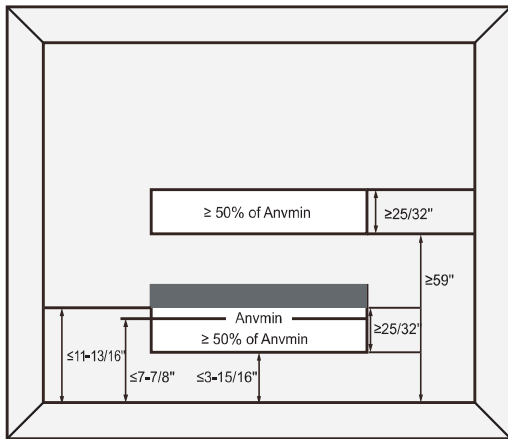

Figure 2.6 Opening conditions for connected rooms
- For determination of room area (A) when used to calculate the refrigerant charge limit, the following shall apply.
- The room area (A) shall be defined as the room area enclosed by the projection to the base of the walls, partitions and doors of the space in which the appliance is installed. Spaces connected by only drop ceilings, ductwork, or similar connections shall not be considered a single space.
- The area of the connected rooms, on the same floor, connected by permanent opening in the walls and/or doors between occupied spaces, including gaps between the wall and the floor, can be considered a single room when determining compliance to Amin, provided all of the following conditions are met as Figure 2.6.
- ① The opening shall not be less than Anvmin in Table 2.5.
- ② The area of any openings above 11-13/16 inches from the floor shall not be considered in determining compliance with Anvmin.
- ③ At least 50% of the opening area of Anvmin shall be below 7-7/8 inches from the floor.
- ④ The bottom of the opening is not more than 3-15/16 inches from the floor.
- ⑤ The opening is a permanent opening that cannot be closed.
- ⑥ For openings extending to the floor the height shall not be less than 25/32 inches above the surface of the floor covering.
- ① The opening shall not be less than 50% of Anvmin in Table 2.3.
- ② The opening is a permanent opening that cannot be closed.